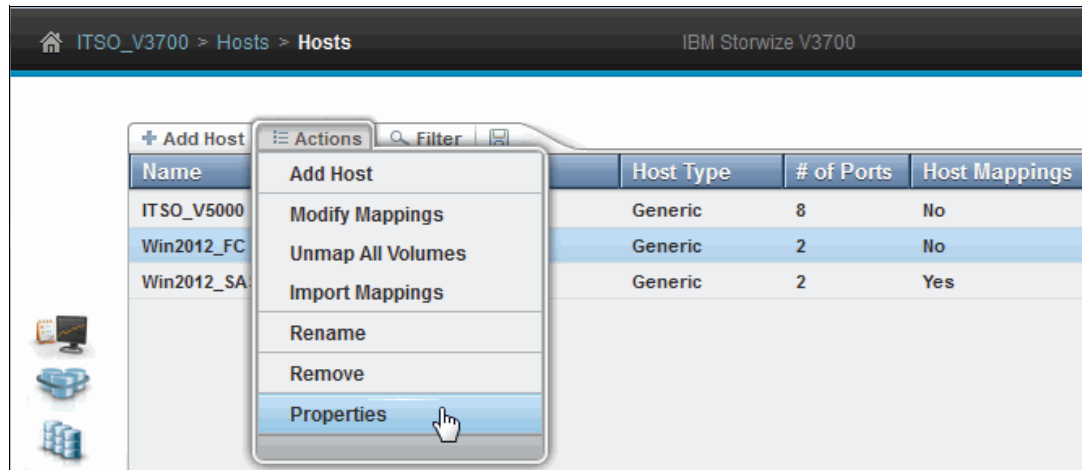

Figure 8-22 Opening host properties
1. Select the host and, from the Actions menu, click **Properties**. You also can highlight the host and right-click it, as shown in Figure 8-22.